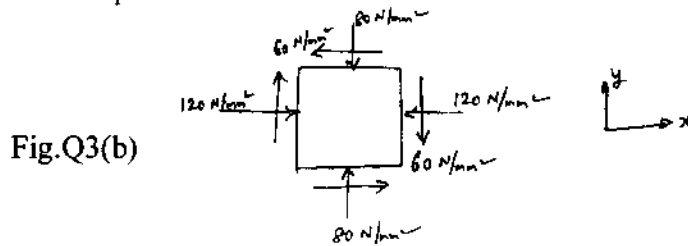

Fig.Q3(b)
- 3 b. The state of stress in a two dimensionally stressed body is shown in Fig.Q3(b). Determine graphically (by drawing Mohr's circle), the principal stresses, principal planes, maximum shear stress and its planes. (08 Marks)